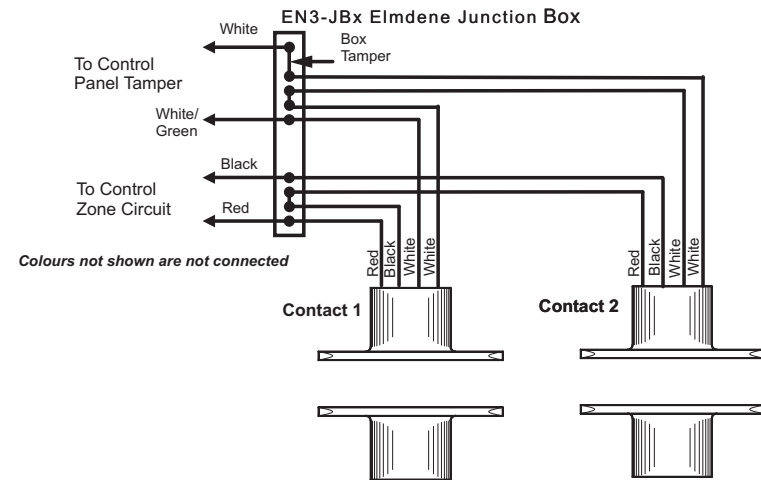

Figure 3
- Fully supervised loop - Single leaf door - Series mode connection - Figure 3